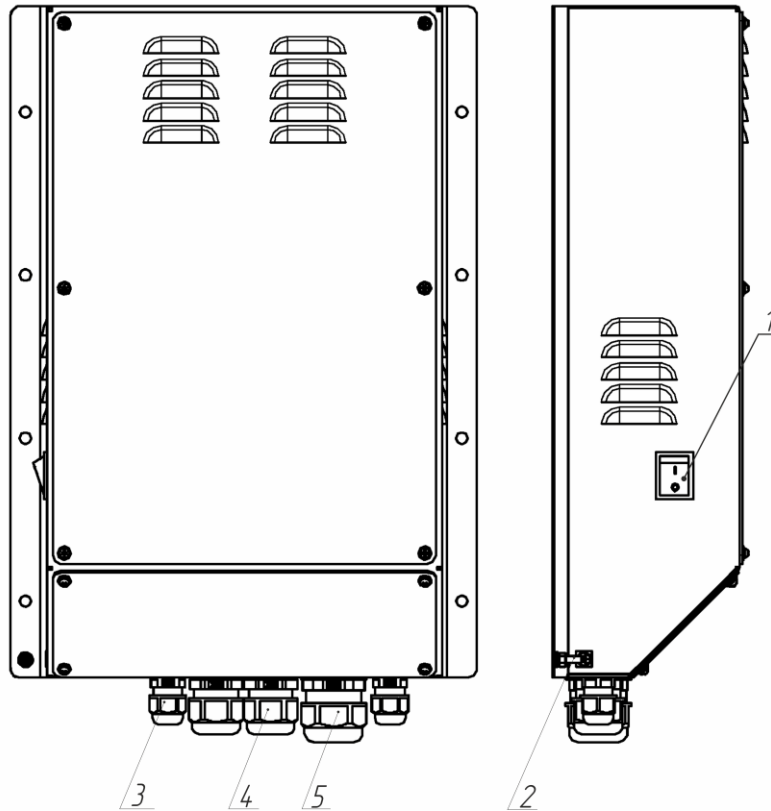

Figure 1 – The PS-203-60
1.3.1 The Product is manufactured in metal casing, which has a mounting to vertical bulkhead. A piano type on/off switch with a main power LED (green) is located on the casing side. The LED operates when the switch is turned to power On position, see Figure 1.
Note – See positions (No) in Figure 1.